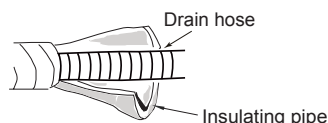

Fig.10
(1) Add insulating pipe in the indoor drain hose in order to prevent condensation.
(2) The plastic expansion particles are not provided. (As show in Fig.10)